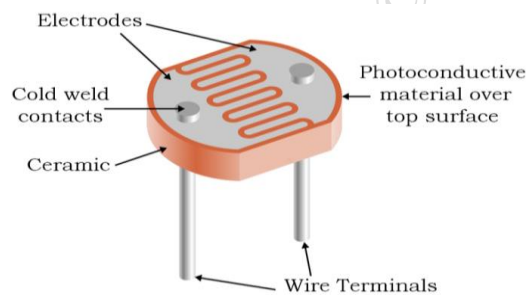

Fig. 2.19 Light Dependent Resistor
- b) **Passive Transducer** – These transducers do not require an external power source and produce a weak output signal. They often need external signal conditioning. For example, light-dependent resistors, and thermistors. The light-dependent resistor, shown in Figure 2.19, illustrates a typical Light-dependent resistor (LDR) that is used to detect light.